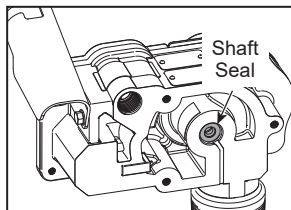

Figure 11
4. Remove the motor shaft seal by prying out with a small screwdriver (see Figure 11).